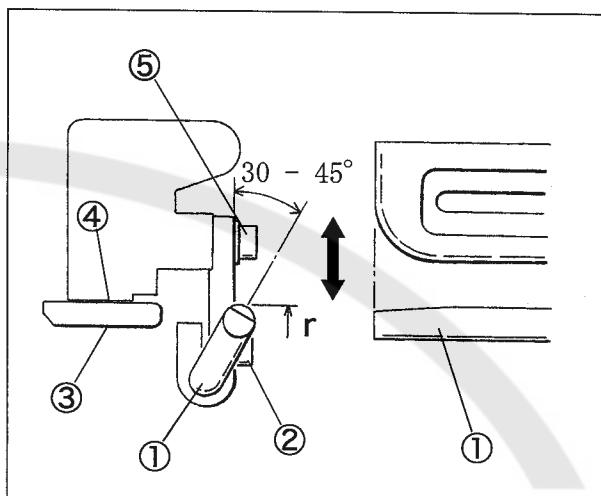

Fig. 29
Align the left end of the fabric gauide bar① with that of the folder. Tilt the folder① at 30 - 45° (Fig. 29). Tighten the screw② securely.